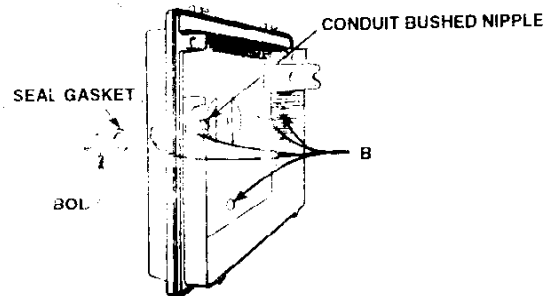

FIGURE 3
Then punch out five (5) knockouts **B** in side and back of die-cast base. (See Figure 3.)